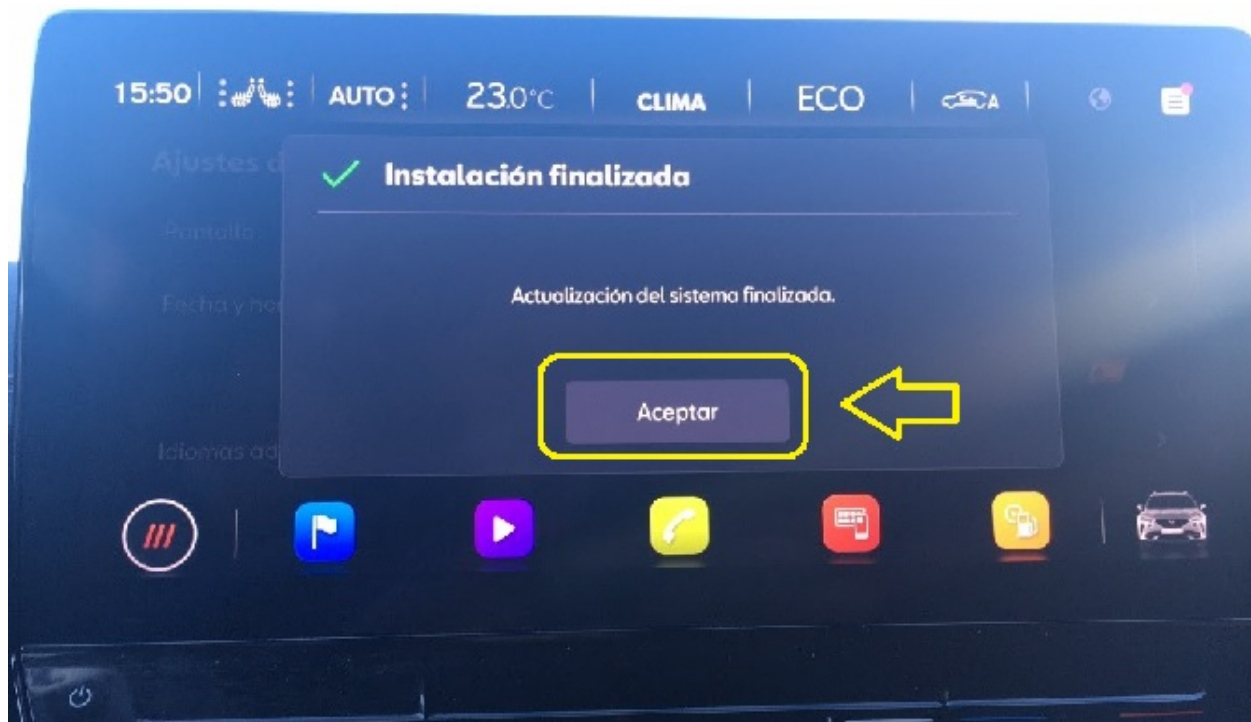

Figure 5: Finishing the software update of the radio and navigation system with the button: "Accept"
- Confirm with the button: **"Accept"** (see Figure 5).